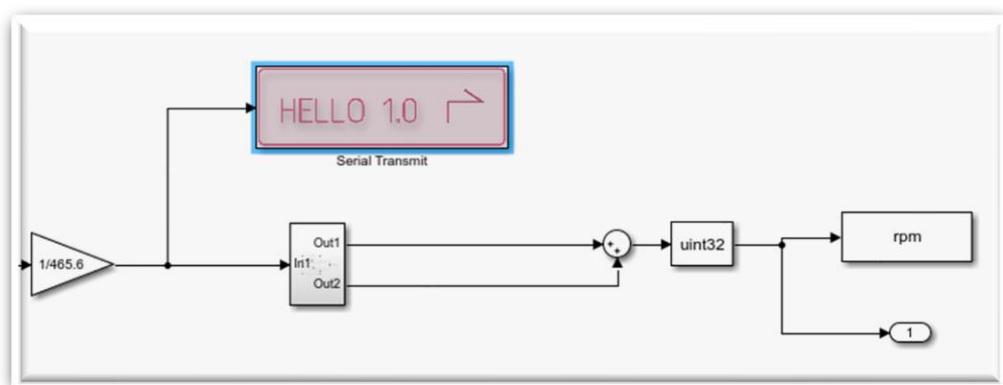

Figure 10: Block Diagram
- Bring the Hello 1.0 block to the location shown in **Figure 10**. This block output gives us the number of turns in a minute. In the first question of the experiment sheet, you were asked to calculate the number of rounds in 5 seconds. Using this calculated number, find the number of laps in 1 minute by hand calculation. Run the simulation without making any changes and add your graph and compare the graph result with the manual calculation. The blocks added in the continuation of the simulation are for control purposes.